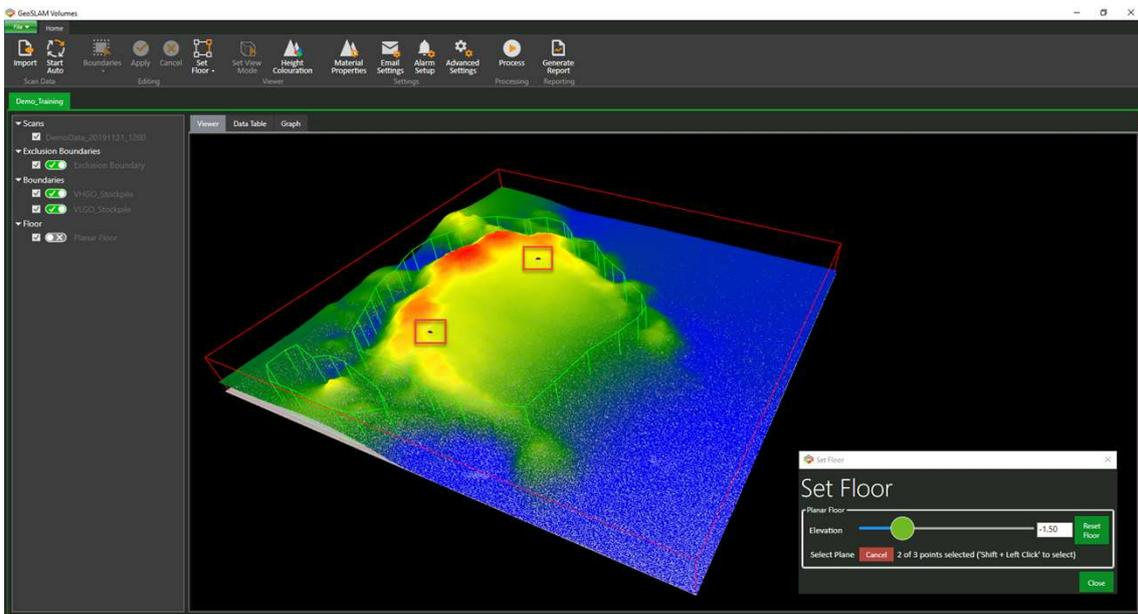

Figure 73. Selected points are highlighted in the dataset.
5. Each selected point will be identified by a marker (Figure 73).